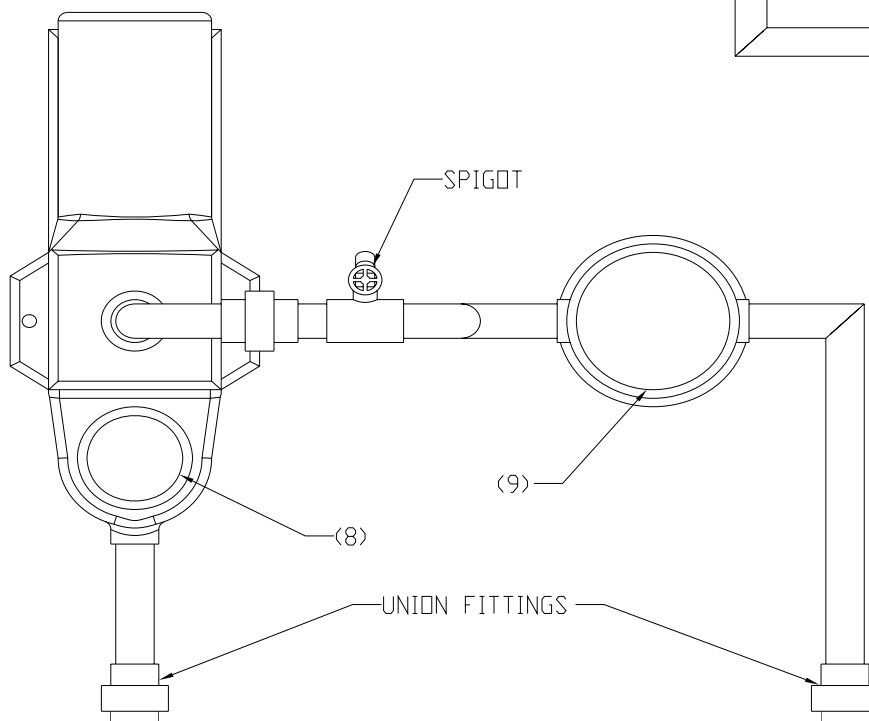

FIGURE 9
2. **SPIGOT FOR STAND ALONE:** A spigot can be incorporated in the stand alone version of the WetDek to allow for draining the reservoir, as shown in **FIGURE 9**; this spigot should be located between the pump (8) and filter/chlorinator (9). The spigot must be easily accessible to allow for connection to a hose. No spigot is required for the poolside version because the pool will have its own drain system.
3. **UNION FITTINGS:** It is also a good idea to use union fittings before and after each piece of equipment used in the WetDek system to allow for easy repair or replacement. This is also shown in **FIGURE 9**.